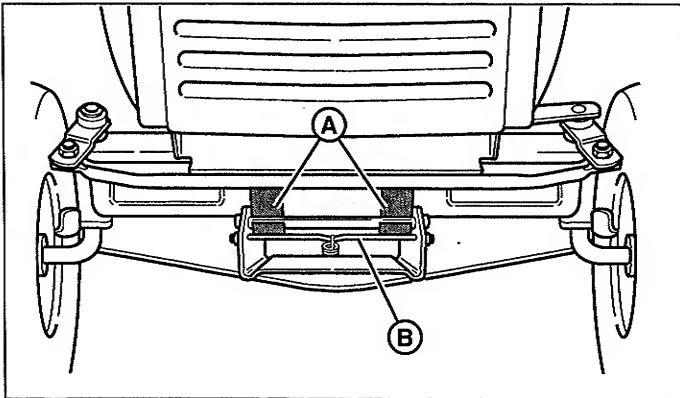

Figure 11. Mower Hitch
5. Turn wheels straight ahead. Pull back on spring-loaded lever (B, Figure 11) and lift mower hitch off of the tractor brackets (A).
6. Turn wheels straight ahead. Pull back on spring-loaded lever (B, Figure 11) and lift mower hitch off of the tractor brackets (A).